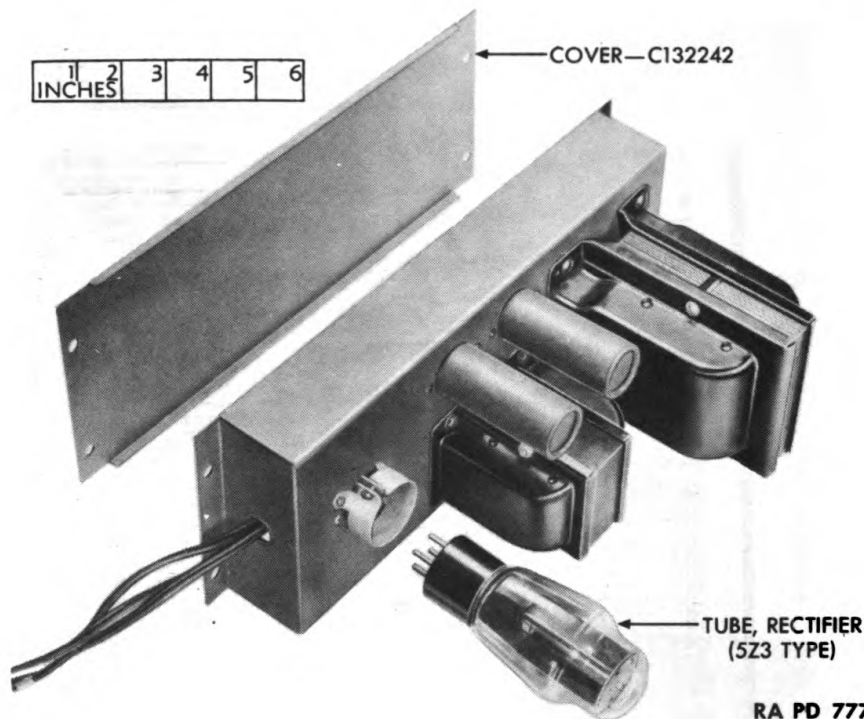

Figure 99 — Removal of Rectifier Tube and Chassis Cover From Power Pack
(12) Loosen the screw in the tube clamp and pull the rectifier tube (fig. 99) from its socket. The cover of the power pack can be